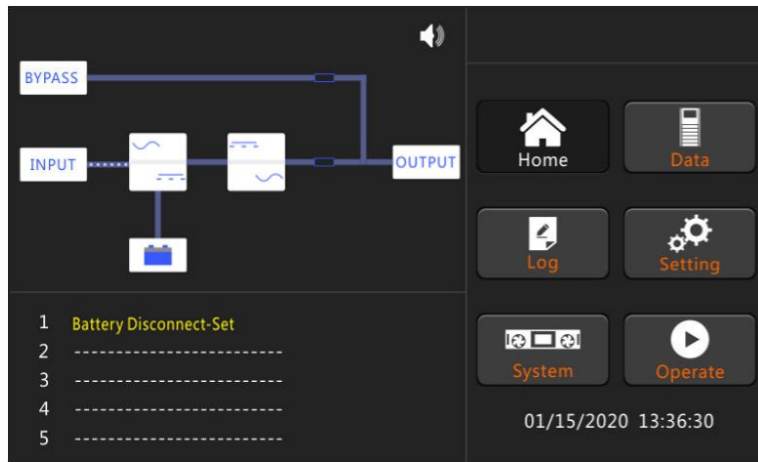

Figure.5.1 Rectifier starting
4. Notice the energy flowing diagram, the rectifier start and indicator flashes. As shown in Figure 5-1.